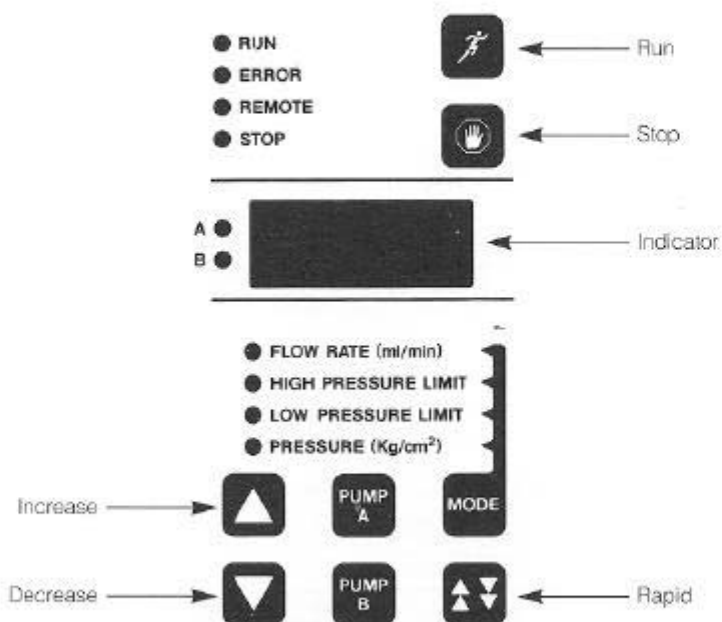

Fig. 5.1. Model 2800 Solvent Delivery System control panel.
2. Push RAPID and INCREASE (see Figure 5.1) until the display reads 1.0 ml/min, or 4.0 ml/min for the 40 ml/min systems. If you exceed this flow rate, use INCREASE and DECREASE to re-adjust the flow rate to 1.0 ml/min.
1. Set the high and low pressure limits by using SELECT to choose either the High Pressure Limit or the Low Pressure Limit display. (See Figure 5.1.) Use INCREASE or DECREASE, along with RAPID, to enter the limits.